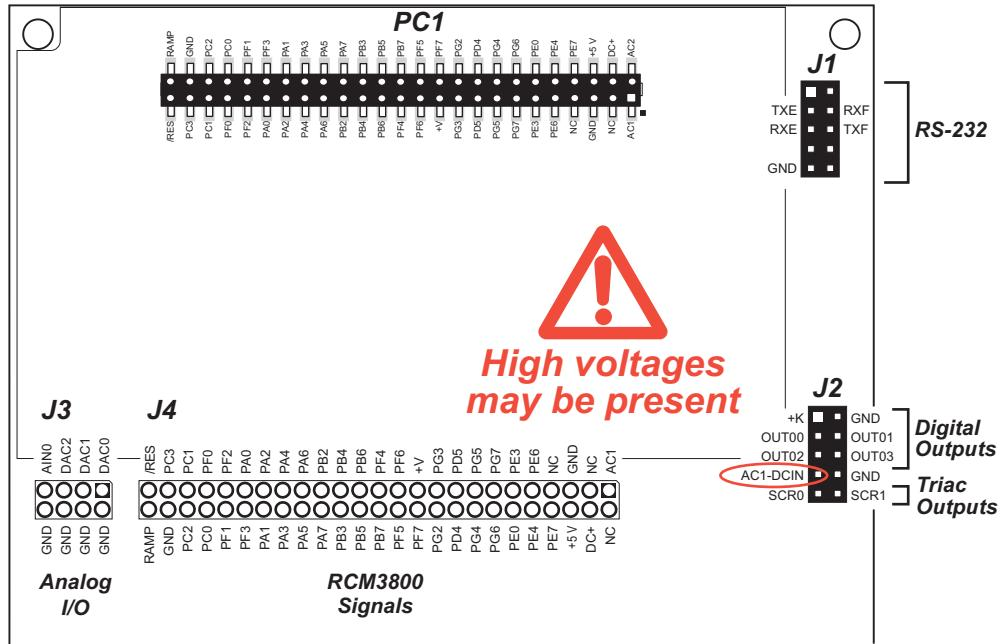

Figure B-3. PowerCore Prototyping Board Pinout
- **Module Extension Header**—The PowerCore module’s pin set is duplicated at header J4. Developers can solder wires directly into the appropriate holes, or, for more flexible development, a 2×25 header strip with a 0.1" pitch can be soldered into place. See Figure B-3 for the header pinouts.
- **Digital I/O**—Four digital outputs and a +K connection are available on header J2. Two digital inputs are available at header location J4. See Figure B-3 for the header pinouts.
The Prototyping Board pinouts are shown in Figure B-3.